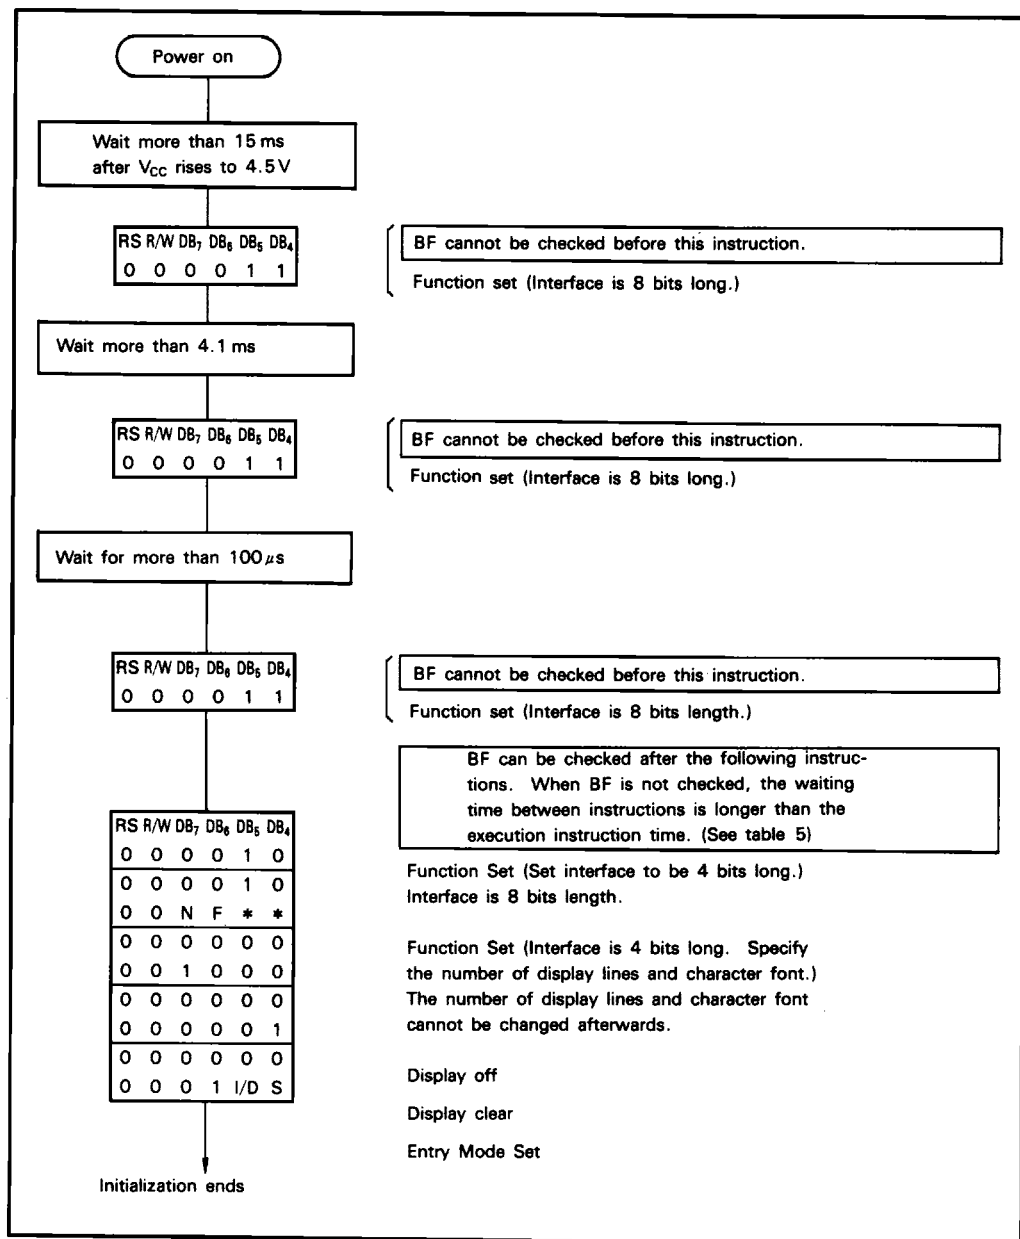

Figure 7 4-Bit Interface
2. After execution of a CG RAM/DD RAM data write or read instruction, the RAM address counter is increased or decreased by 1. The RAM address counter is updated after the busy flag turns off. In figure 7 t_{ADD} is the time elapsed after the busy flag turns off until the address counter is updated.